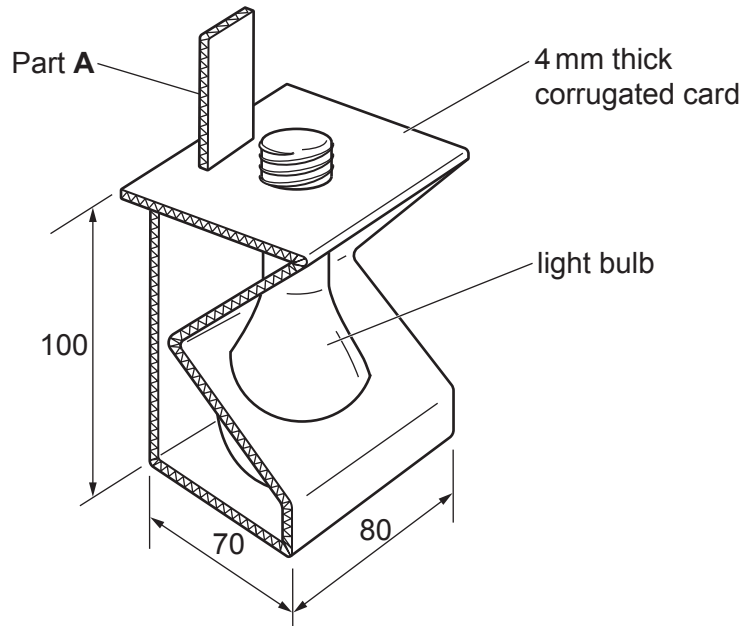

Fig. 2.1
- 2 Fig. 2.1 gives details of a package, for a light bulb, which is to be made in a school workshop.